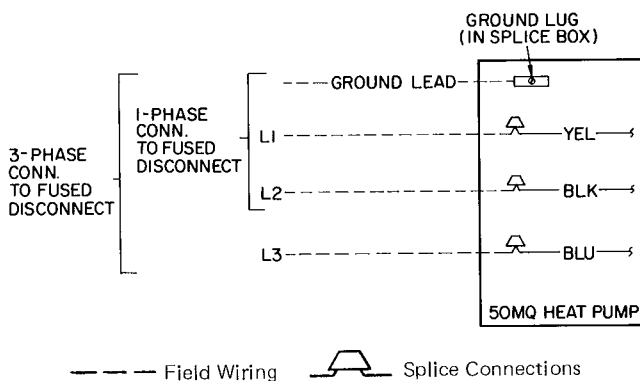

Fig. 6 – Line Power Connections
Step 9 – Connect Ground Lead to Ground Lug in Splice Box for safety. Connect power wiring. See Fig. 6. Connect line power leads to yellow and black pigtails on single-phase units or yellow, blue and black pigtails on 3-phase units. Use wire nuts provided. Tape each connection. Wire nuts are suitable for copper or aluminum wire since they contain joint compound.